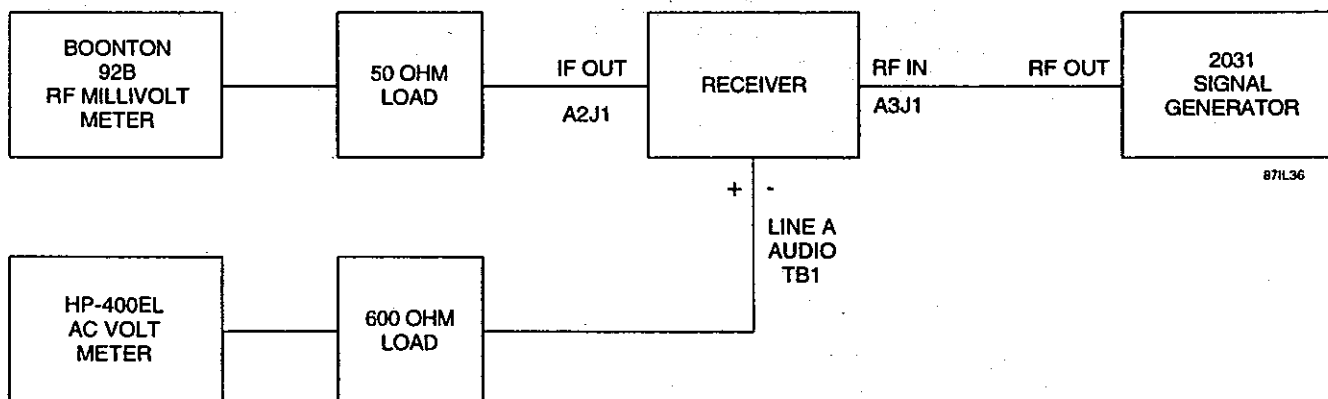

Figure 7-5. Receiver Sensitivity Performance Test Equipment Connection
1. Connect the WJ-8712P Receiver and test equipment as illustrated in Figure 7-5.